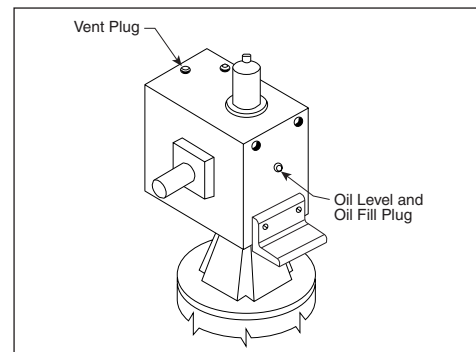

Figure 6
1. Remove the oil level plug from the gear reducer (refer to Figure 6 above). The oil level should be even with the bottom of the hole.
2. To add oil, remove the oil fill/level plug from the side of the gear reducer. Fill to the proper level (refer to Figure 6 above).